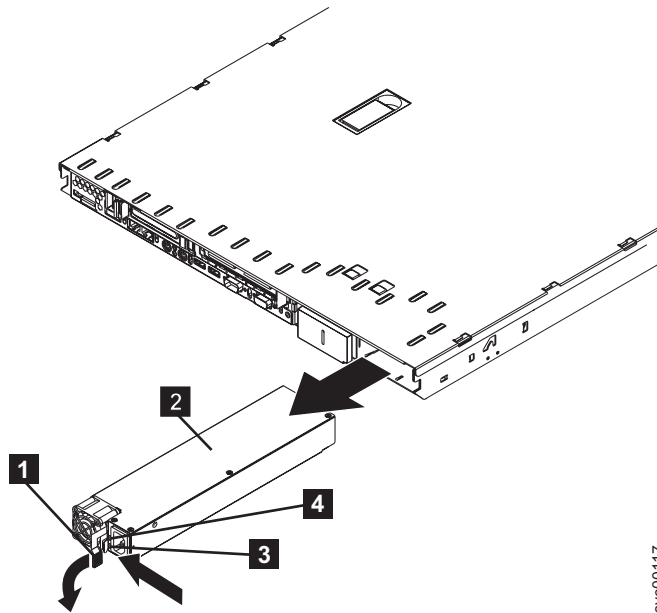

Figure 156. Removing the SAN Volume Controller 2145-8F2 power supply
4. From the rear of the node, as shown in Figure 156 on page 172, push the orange release lever to the left and then push down on it to release the power-supply assembly. This will move the power supply back, slightly, for easy removal.